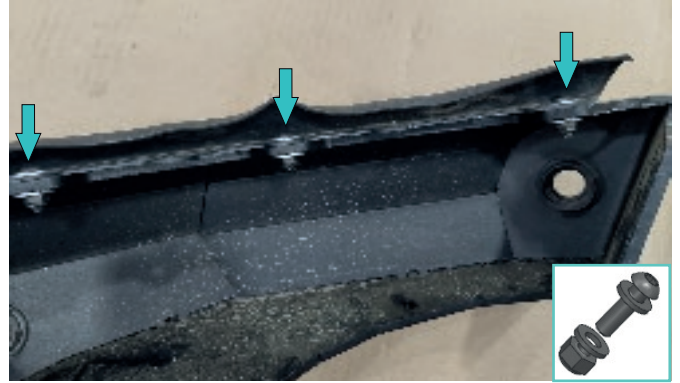

Fig.45
43. Install factory gasket using screws M6x20, penny washers 6 and nuts M6 (item D, Q, J) on both sides of the end caps (fig.45).